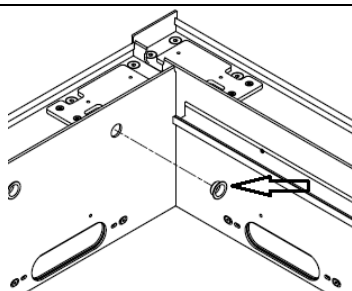

Figure 38
22. Stud the outer slip rings into the large holes for the blade's axis on the lengthwise beams (fig. 38).